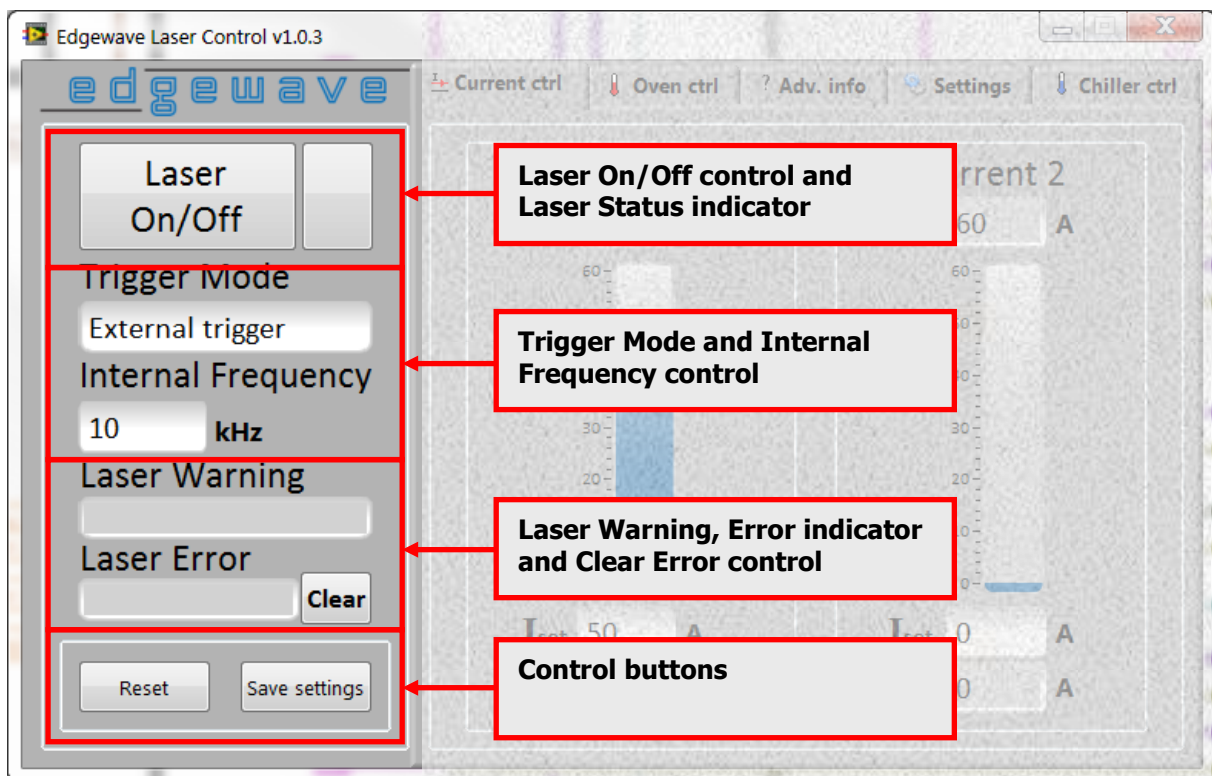

Figure 12: Main operation panel
*Laser Operation* panel is located at the left side of the window. If a nano second laser is connected (Figure 12), the panel will be visible. If a pico second laser is connected, advanced controls and indicators will appear (Section 3.3.1.2).